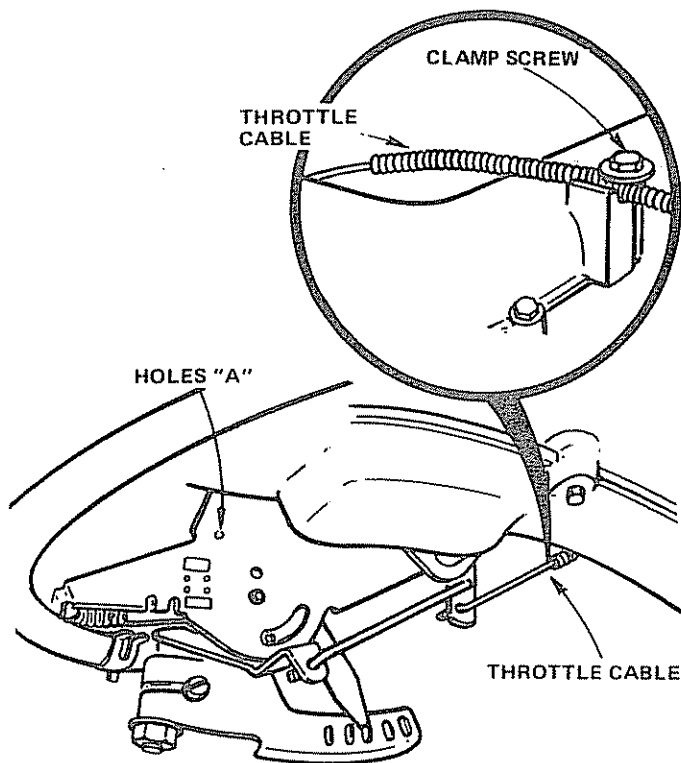

FIGURE 43
- Check that two holes "A" line up. If not, loosen Clamp Screw and adjust Throttle Cable until the two holes do line up (Fig. 43 - Inset).